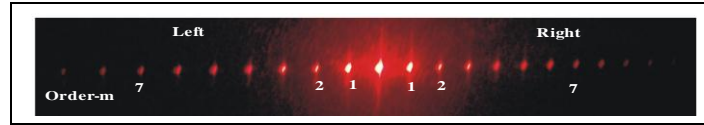

Figure-4, Diffraction pattern observed $f=2m$
2. The 500LPI grating is now placed on the grating stand close to the laser source and the diffraction pattern is observed as shown in the Figure-4. Equally spaced diffracted laser light spots are observed. The total numbers of spots are counted. The central direct ray is very bright in the picture as the order increased the brightness decreased.